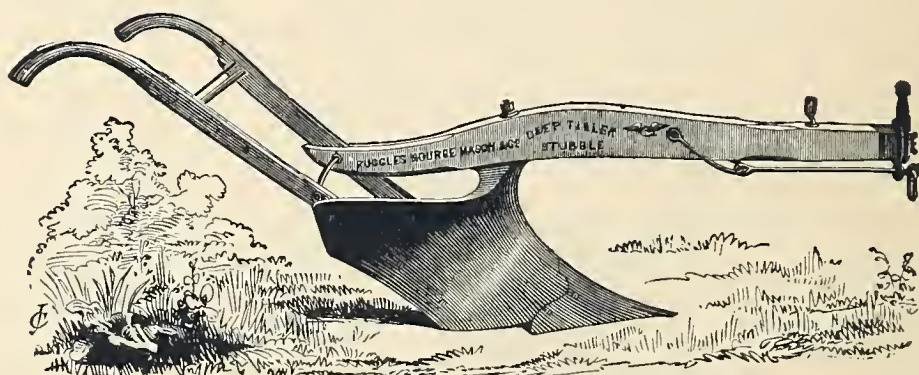

Fig. 263.—Eagle Deep-Tilling Stubble Plow.
*The Eagle Stubble Plows*, which are represented by *Fig. 263*, are very high in the standard, which enables them to keep their course and depth in the ground